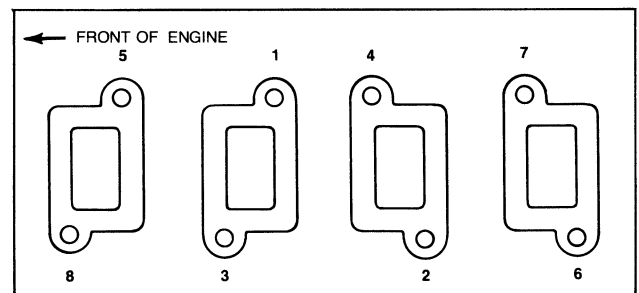

FIG. 28a Exhaust Manifold Torque Sequence
2. Install the exhaust manifold and torque the nuts to specification in the sequence shown in Figure 28a.